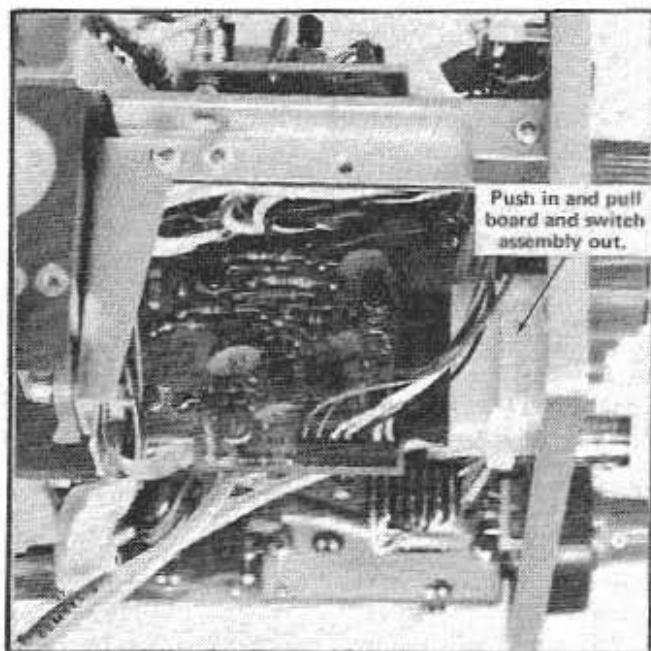

Fig. 4-9. Latch assembly for the vertical display board and switch assembly.
- Push in the delrin latch assembly (see Fig. 4-9) and pull the board and switch back and out of the instrument.